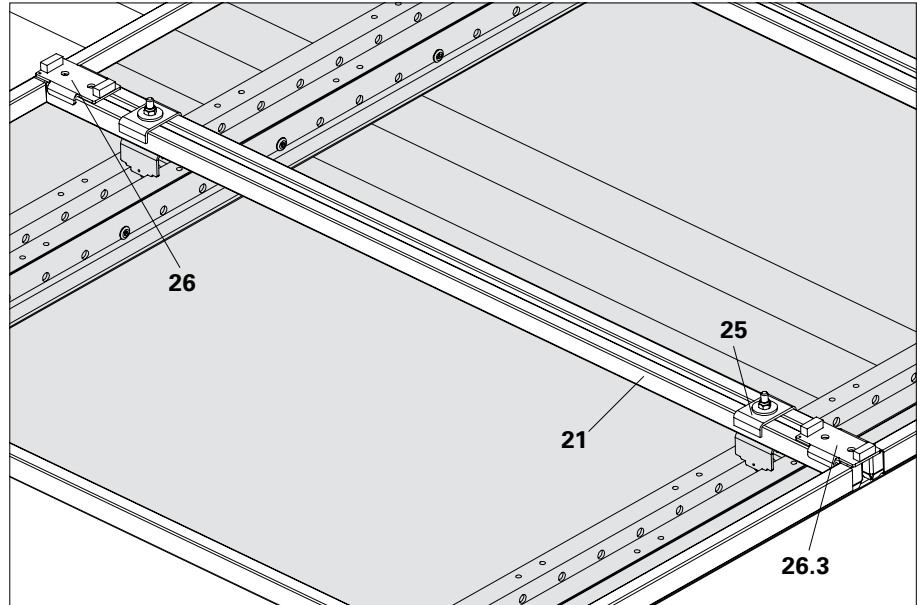

Fig. C1.26
1. Mount Screen Element (21) with Screen Adapter Double LPS 60 (25).
2. Place pressure plate (26.3) of Screen Adapter Telescope on the Screen Element. (Fig. C1.26)